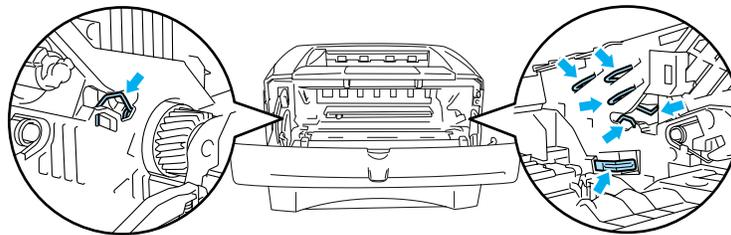

Figure 5-5
- To prevent damage to the printer from static electricity, do not touch the electrodes shown in Figure 5-5.